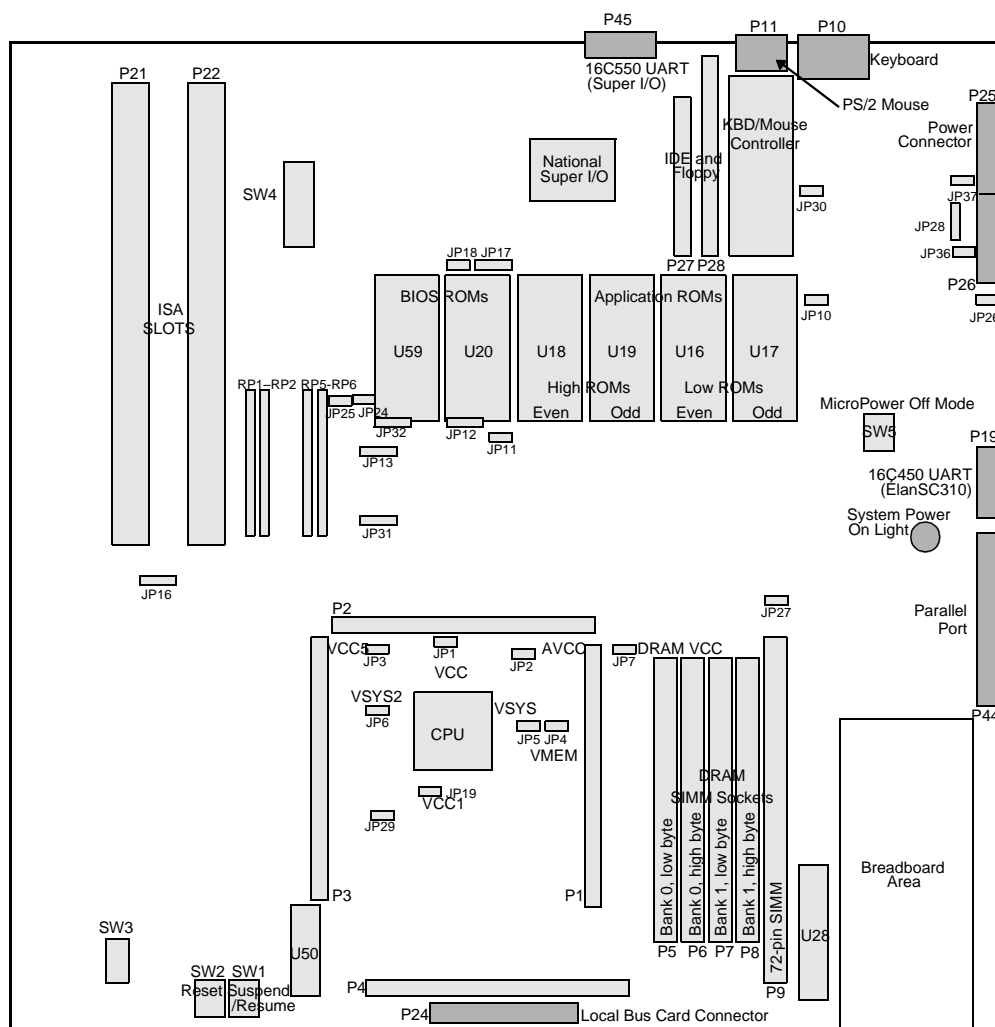

Figure 2-1. ÉlanSC310 Microcontroller Evaluation Board
6. Connect the connectors marked P8 and P9 from the standard PC power supply into the board's power connectors at P25 and P26. P8 connects to P25 (the six pins closest to the corner of the board); P9 to the other six pins. (See Figure 2-1 on page 2-2 for the connector locations.) *Make sure the black ground wires from P8 and P9 meet in the middle of the board's P25 and P26 connectors.*